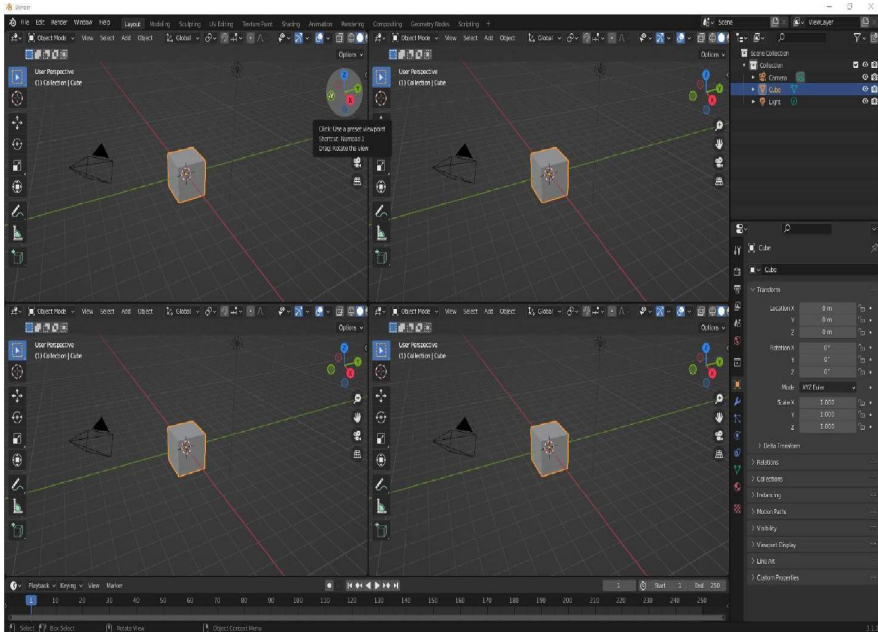

Figure 2.20 Changing the perspective shown in each 3D Viewport
- To see this concept for yourself, click the green transparent circle on the Gizmo in the upper left **3D Viewport** as shown in *Figure 2.20*, then the solid red circle on the upper right **3D Viewport** Gizmo, and finally click the solid blue circle on the lower left **3D Viewport** Gizmo.